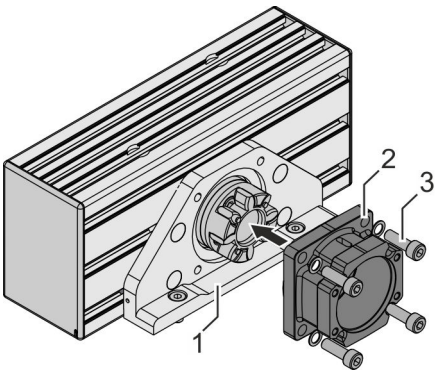

Fig. 33: Assembling the coupling housing
6. ➤ Place the coupling housing (Fig. 33/2) on the pulley housing (Fig. 33/1).
7. ➤ Tighten 4 screws (Fig. 33/3) alternating diagonally: